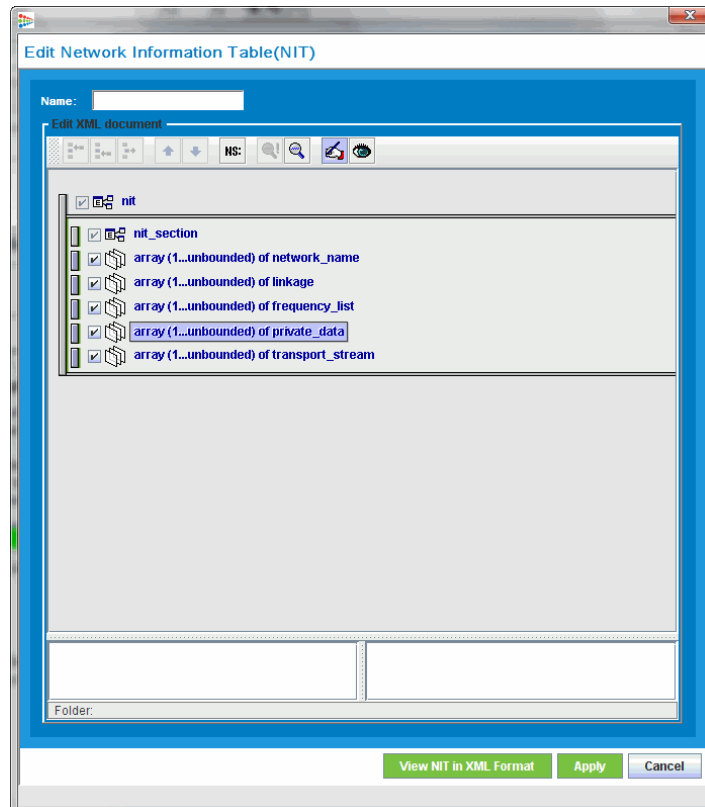
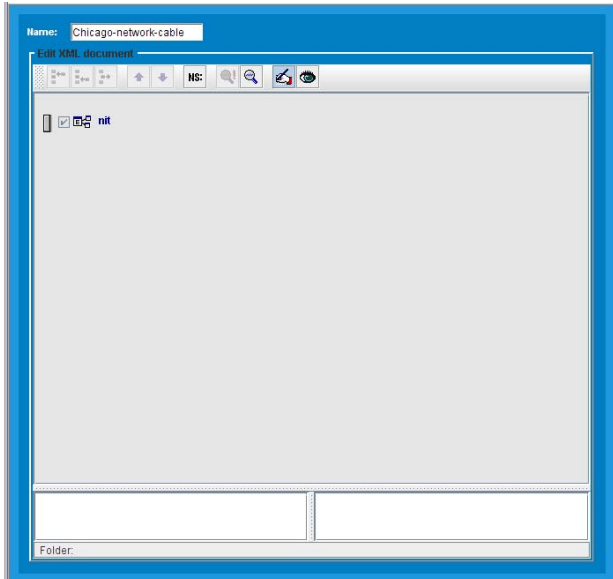
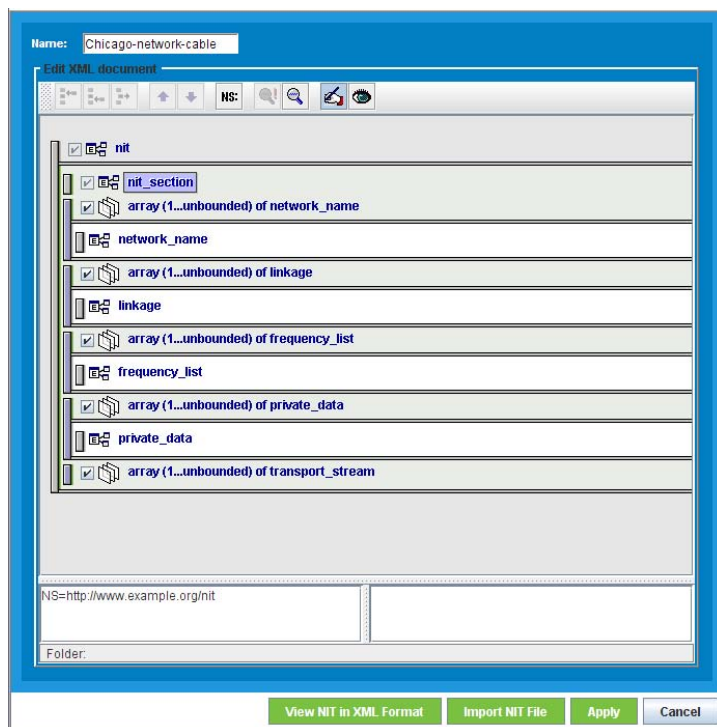

Figure 307. Editing Window
Figure 311. Large Vertical Bar Clicked Fully Compress
Figure 312. First Level of Expansion
2. Click **Edit**. The window of Figure 307 appears.
The vertical bars shown in the window of Figure 307 on page 304 are used to toggle between an expanded and reduced view. through show three layers of expansion. Clicking the large vertical bar compresses the display as shown in Figure 311.
Figure 312 shows the first level of expansion from Figure 307 on page 304, obtained by clicking all of the small bars to the right of the large bar.
Clicking all of the smaller bars in Figure 312 creates the second level of expansion shown in Figure 313.